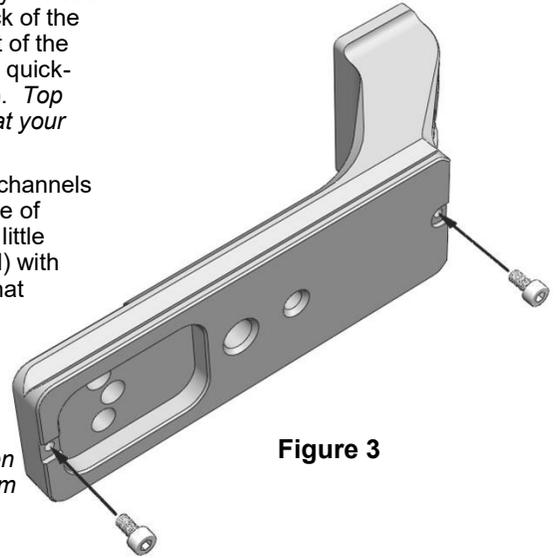

Figure 3
- 4. Install safety stop screws** as shown on page 2 (Fig. 3). Safety stop screws are not required, however they keep your lens and camera secure when using a compatible QR clamp (see note on page 2).
Your Wimberley plate comes with two safety stop screws and a matching hex key. These screws can be screwed into the small bottom threaded holes in the front and back of the plate (Fig. 3) to serve as stops that prevent the plate from accidentally sliding out of the quick-release clamp. If you opt to use both stops, you must open the jaws of the quick-release clamp wide enough to load your lens from the top (instead of sliding it in). *Top loading is a little less convenient, but if you use both stops you can be certain that your lens will not slide out of the clamp.*